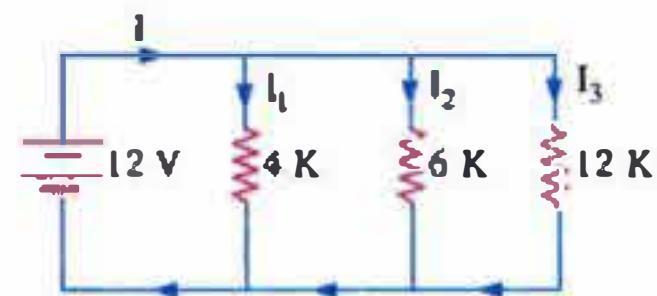

Fig. 2.23
**Example 2.7.** A 12 V battery of negligible internal resistance is connected across a parallel combination of  $4\ K$ ,  $6\ K$  and  $12\ K$  resistors as shown in Fig. 2.23. Compute